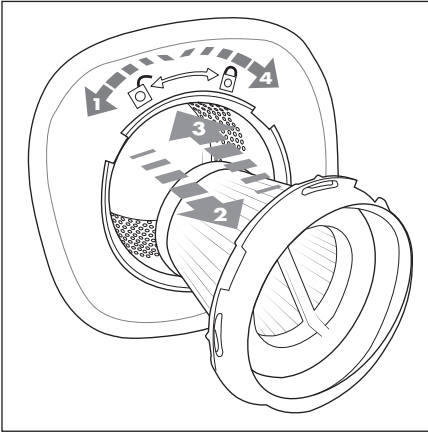

Fig. 5
- 3) Rotate the EPA filter **6** to the left towards the  symbol (open) until it comes free with a click and pull it out of the coarse filter **7** (Fig. 5).
- 6) Re-insert the coarse filter **7** first and then the EPA filter **6**. When inserting the EPA filter **6**, ensure that the three recesses of the EPA filter **6** align with the three retaining tabs of the coarse filter **7**. Rotate the EPA filter **6** to the right towards the  symbol (closed) until it clicks into place (Fig. 5).